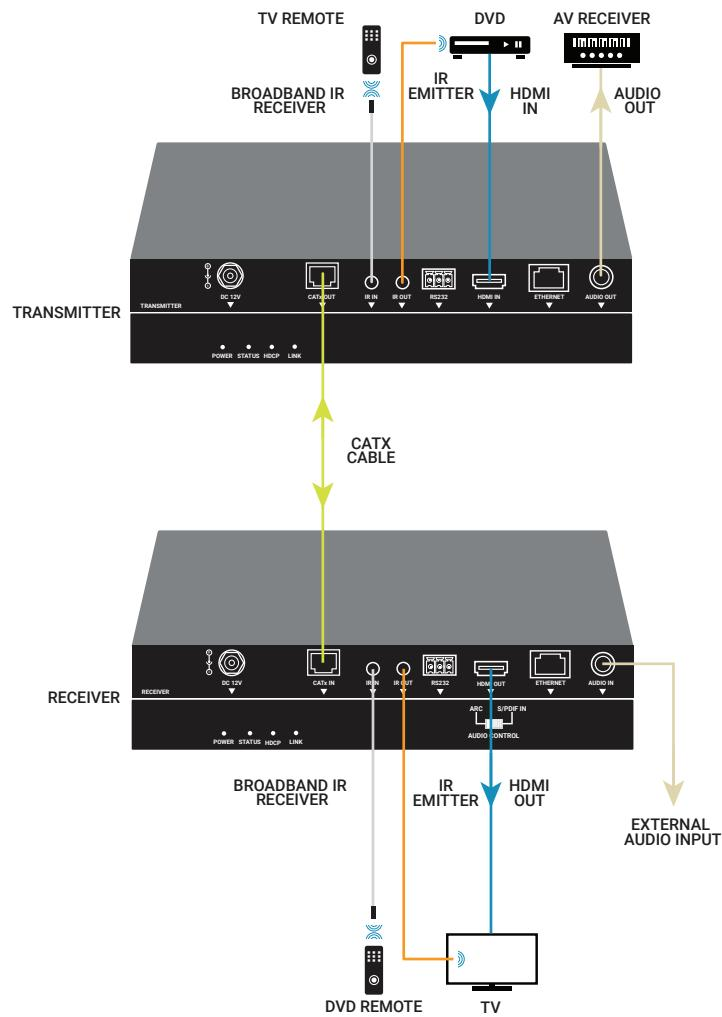

FIGURE 3-1. CONFIGURE ARC CHANNEL
- ◆ When you configure the ARC channel feed by TV, switch it to ARC mode. The TV should be supported and ARC and CEC should be open. See Figure 3-1.